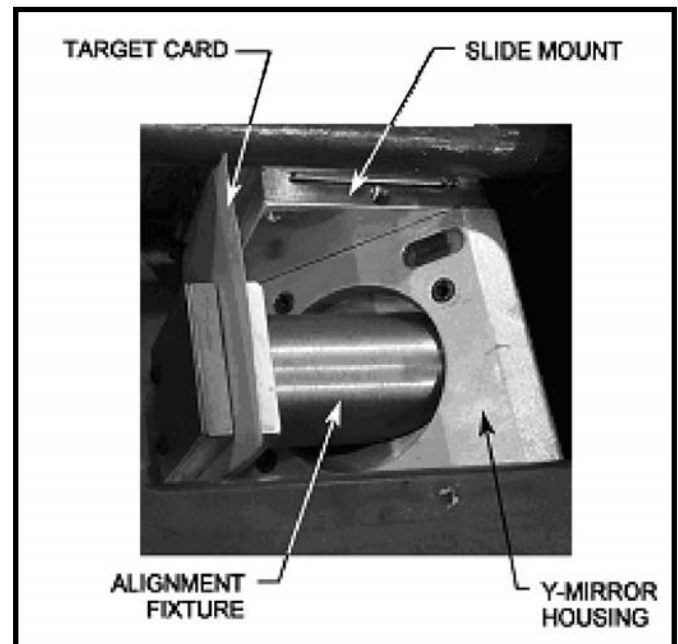

FIGURE 9-22 Y-Axis mirror alignment top view
- Insert the alignment fixture and target card in the mirror housing. See Figure 9-22.